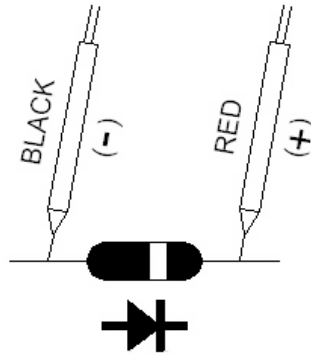

Fig. 3
- b. When connected as shown in Fig. 3, a reverse check on the diode is made. If the diode under test is good, " OL " will be displayed. If the diode under test is defective, ".000 " or other numbers will be displayed. Proper diode testing should include both steps a. and b. above.